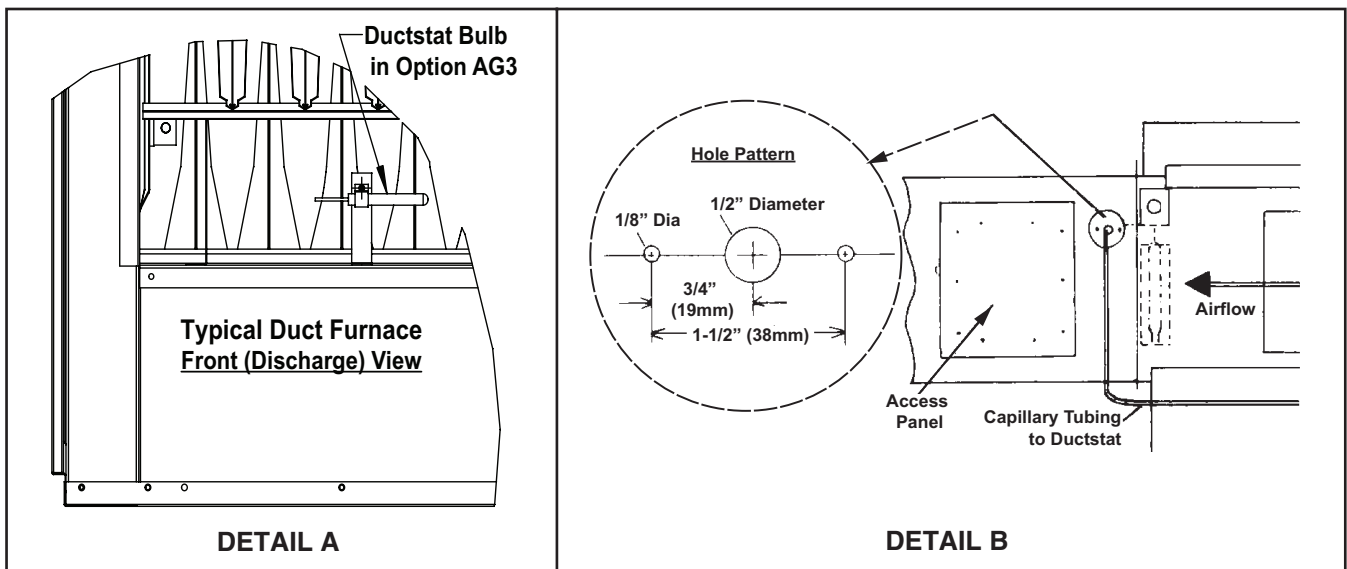

Figure 7. Capillary Sensor Bulb Installation (Option AG3)
- (1) Ductstat and sensor are connected by permanently-attached capillary tube. Before connecting ductwork, remove capillary tube sensor bulb with bracket from its shipping position on furnace (see Figure 7, DETAIL A).
- (2) Drill holes in ductwork in accordance with hole pattern shown in Figure 7, DETAIL B.
- (3) Remove ductwork access panel (see Figure 7, DETAIL A).
- (4) Remove sensor bulb from bracket and push sensor through 1/2-inch hole. While reaching through access hole, use retaining clip to reinstall sensor to bracket.
- (5) Slide gasket (cut slit) and hole retainer plate over capillary tubing. With gasket next to ductwork, install hole retaining plate and secure using field-supplied sheet metal screws.
- (6) Close ductwork access panel.